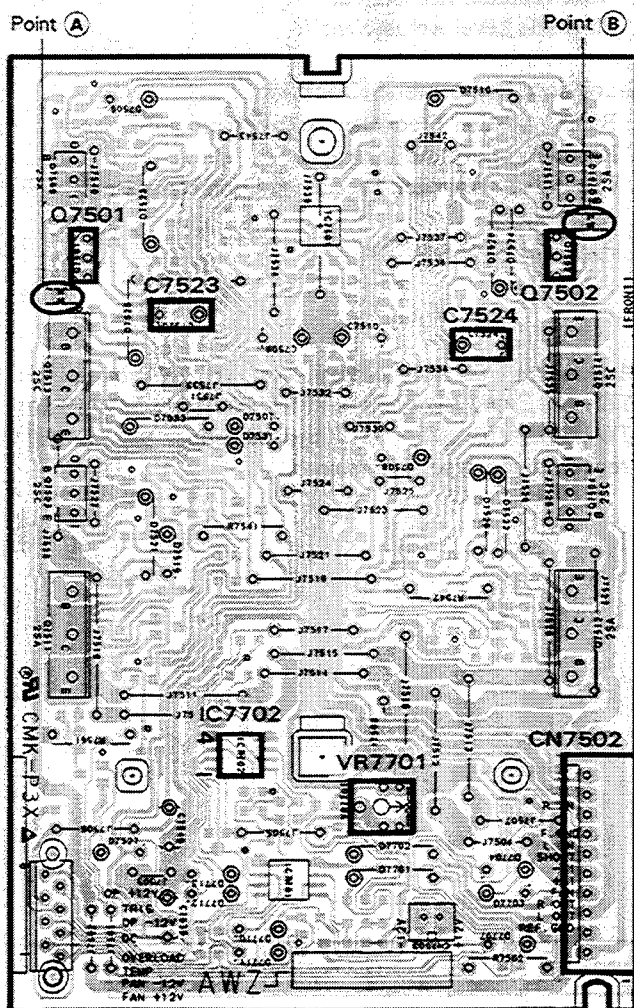

Fig. 2-3 FRONT ASSY FOR 100W
- Connect a voltmeter between TEMP and TP (or between IC7702 terminals No.3 and 2). (Refer to Figs. 2-3 and 2-6.)